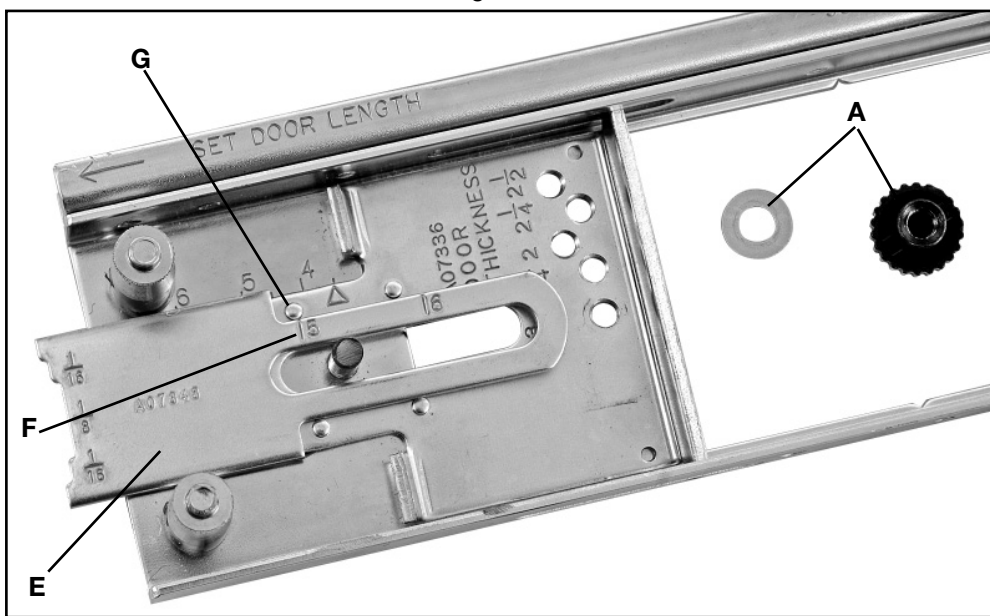

Fig. 2
- With left template section oriented as shown in Fig. 2, remove the left thumb nut and washer (A) and install the 5" (or short) end gauge (E) as shown. Align the scribed line (F) next to the number "5" with center of alignment pin (G). Use the end gauge that corresponds with where the top of the hinge should be placed.